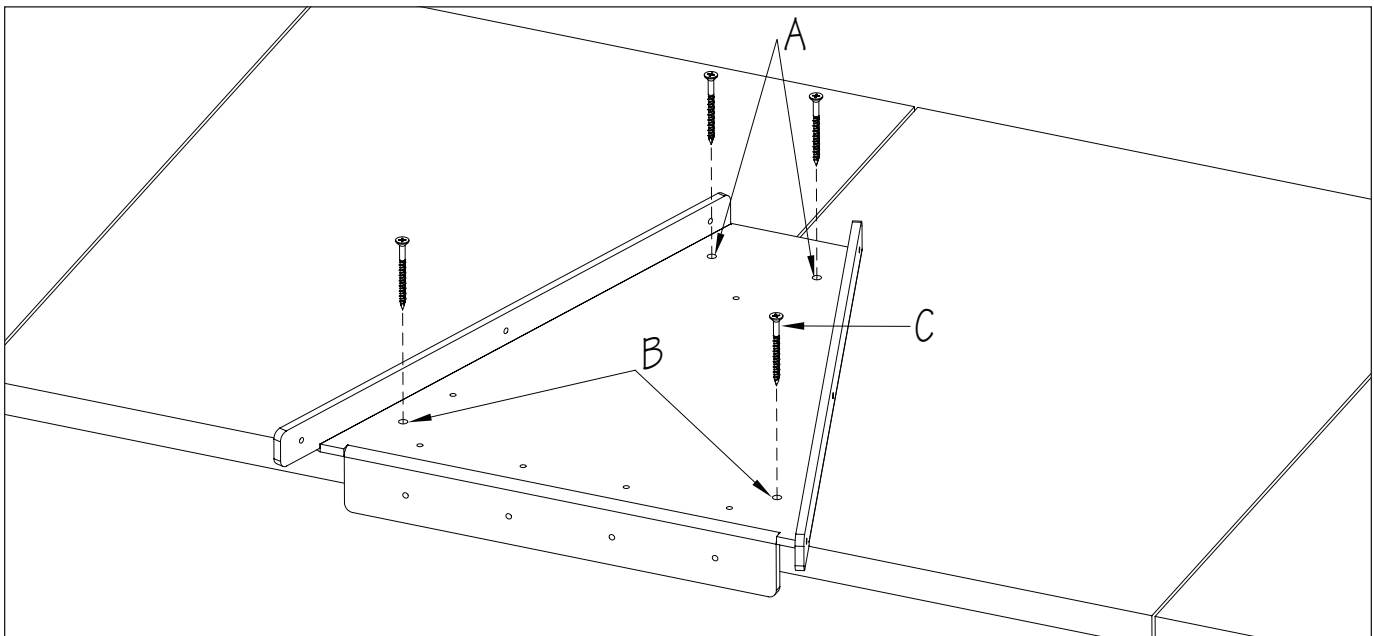

Fig. 15
2. Use the provided 5/32" (4mm) drill bit to drill the anchor holes into the pool deck approximately 2" (51mm) deep through the two holes in the rear of the plate (A). While these two anchor points are enough to secure the Fastlane Swim to the pool deck, additional anchor locations at the front of the plate (B) should be used when possible. Secure plate with provided Masonry Screws (C) (Fig. 15).